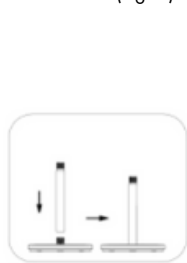

Fig. 1
1. Align one end of the inner thread of any stand column with the outer thread of the housing, insert it, and then turn it clockwise to tighten the bottom. Use the wing nuts to attach the base to the main body of the fan (Fig. 1).